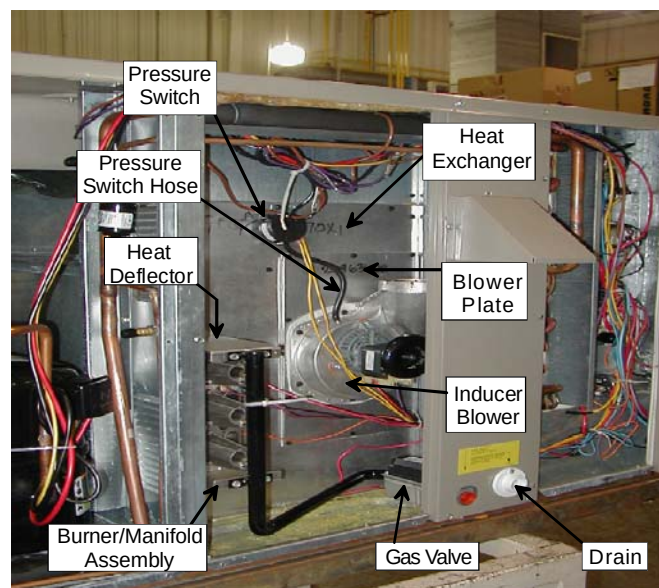

Figure 5
Note: Save all components and screws removed in the following procedures for reassembly. See Figure 5 on Page 3 for component identification and location.
6. Remove the one screw that holds the heat deflector to the heat exchanger at the top of the burner bracket (see Figure 5).
NOTE: The flue elbow has been removed from the inducer motor in Figure 5 below to better show the components.